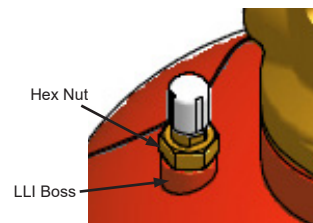

Figure C.1 LLI Exterior
2. Remove the liquid level indicator (LLI) by using a 1-1/8 inch wrench on the hex nut directly above the LLI boss on the cylinder. (Refer to Figure C.1)